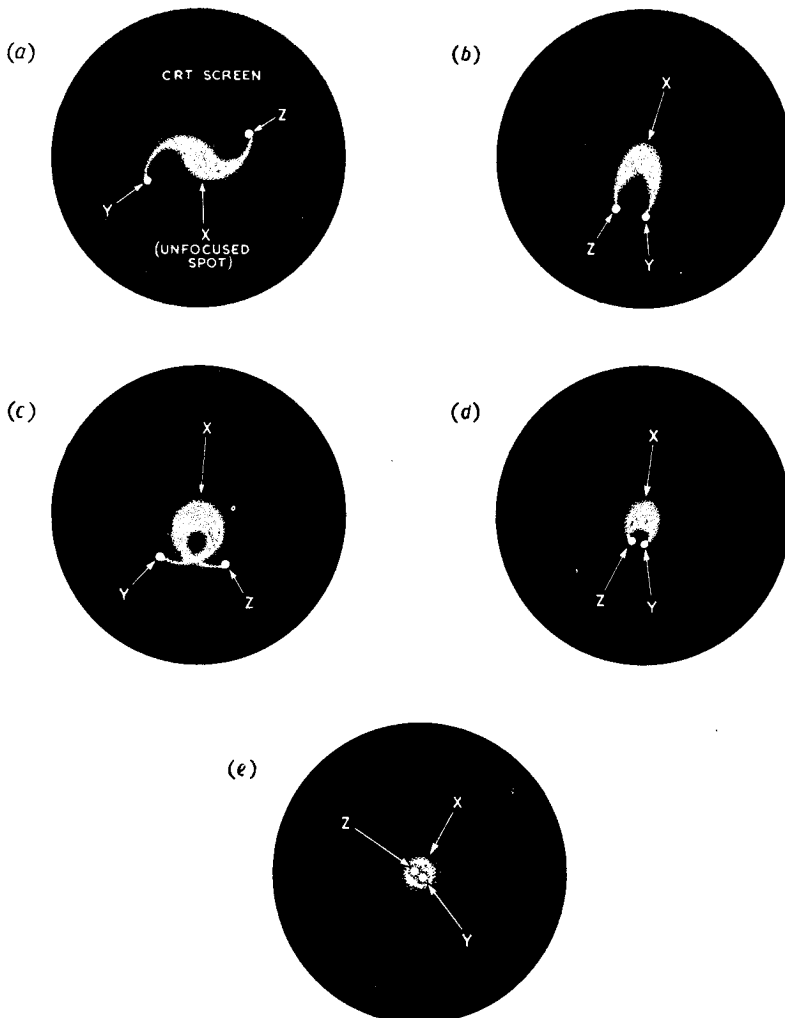

Fig. 4. Stages in focus-coil adjustment
current in the focus-coil instead of the usual steady focus current. When the current is zero the unfocused spot appears (**X** on fig. 4). When the current is maximum one way the focused spot **Y** is displayed; when it is maximum the other way the focused spot **Z** appears instead. Tube afterglow makes the whole appear as one picture without much flicker. The procedure is to manipulate the focus-coil adjustments until both the focused spots coincide with the middle of the unfocused spot. Proceed as follows:—
- (1) Trip off the console HT.
- (2) Improve access to the focus/deflector coil assembly by swinging back the waveform generator Type 80.
- (3) Turn down the BRILLIANCE control (RV6 on video amplifier) and remove normal deflections by earthing SK4 on each deflection amplifier. Set the RANGE switch on control panel 859 to 320M.
- (4) Remove the normal free socket from PL2 on the tube housing, and insert the connector from the test oscillator Type 101 instead.
- (5) Make sure that the meter on the bulk power supply rack in the radar office is not switched to the +250V position associated with this console. (When PL2 on the tube housing is disconnected, the +250V stabilizer in the B.P.S. rack, being unloaded, produces nearly 500V, which could wreck the meter).
- (6) Bring on the console HT, and then switch on the test oscillator.
- (7) Turn up the BRILLIANCE control until a reasonably bright picture as fig. 4(a) is obtained. If necessary, adjust the AMP. and BAL. controls on the test oscillator until the focused spots at each end of the pattern are sharp. Where the focus-coil is badly out of adjustment, the picture will look like fig. 4(a), or worse.
- (8) Do not attempt to set up a mirror (as in television servicing) to view the screen while working on the focus-coil. For sufficient accuracy a direct examination of the screen must be made after each stage of adjustment.
- (9) Slacken off the rotation setscrew through the hole in the mumetal screen, and also the tilt locknut on the rear of the assembly.
- (10) Adjust the transverse shift screws alternately until the two "horns" of the pattern (**Y** and **Z**) are on the same side as in fig. 4(b), and continue to adjust these until the "horns" cross over as in fig. 4(c).
- (11) Manipulate the rotation and tilt adjustments until the "horns" coalesce and open out a little nearer the unfocused spot **X**, as in fig. 4(d).
- (12) Continue operations (10) and (11) until the focused spots **Y** and **Z** coalesce in the middle of the unfocused spot **X**, as in fig. 4(e). It will be acceptable if **Y** and **Z** are within 2 mm. of each other and of the centre of **X**.
- (13) Clamp up all focus-coil adjustments, reduce brilliance, switch off the test oscillator, switch off console HT, remove test oscillator, put back PL2 on the tube unit, switch on HT again and bring up the brilliance slowly.
- (14) Adjust for the sharpest spot using the normal focus control (RV1 on the blanking unit).
- (15) Use the OFF-CENTRE controls to shift the spot to all sides of the screen, and check that the focus is reasonably uniform all over.
- (16) Turn down the BRILLIANCE control, and restore normal deflection inputs to the X and Y deflection amplifiers.